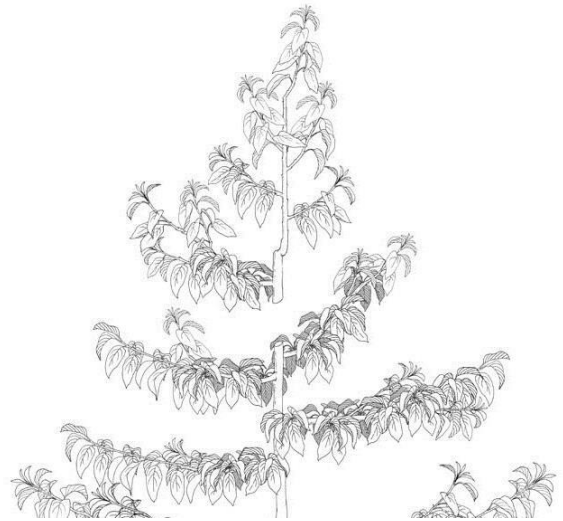

Figure 61
- Once the leader has reached its mature height, it should be headed back to a relatively weak lateral shoot just below the preferred mature height, either done at a delayed budbreak timing (4 to 6 weeks after budbreak) or postharvest (midsummer) to minimize regrowth (Figure 61).